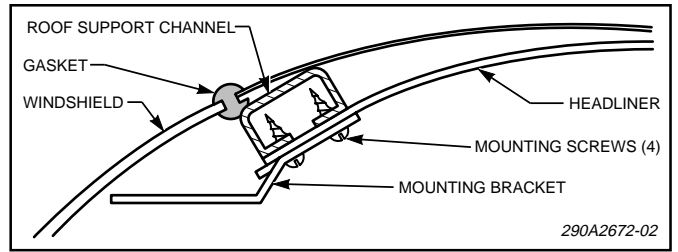

Figure 2.
2. See figure 2. Locate the roof support channel(s) under the headliner. Using the mounting bracket as a template, align four mounting holes with the support channel(s) and mark four drill position marks on the mounting surface.